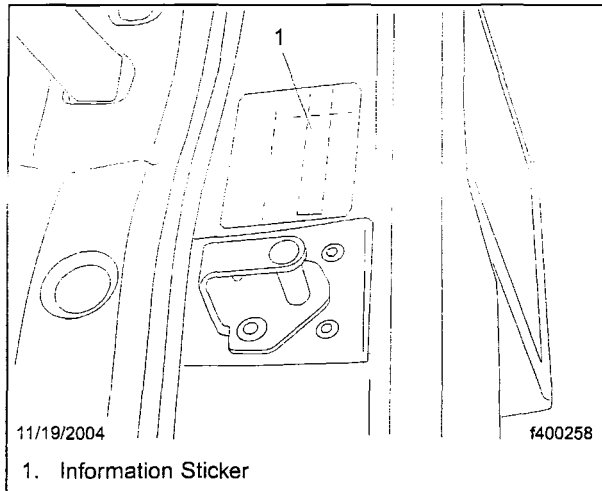
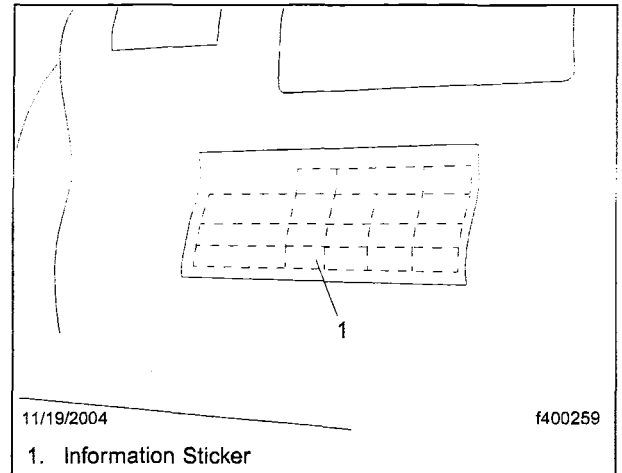
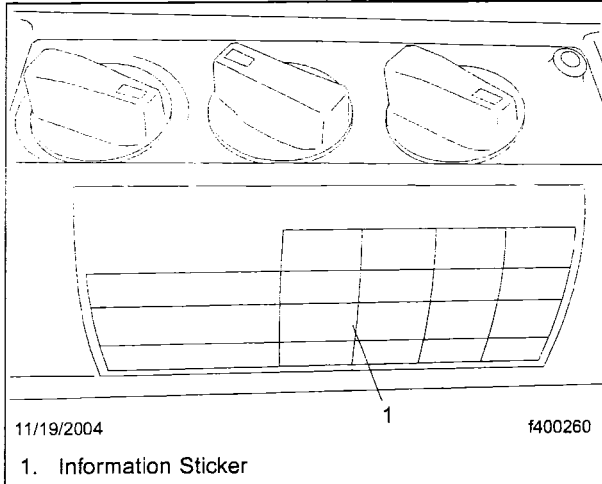

Fig. 1, Left B-Pillar
Fig. 2, Dash Center Panel (CTIS with transferable steering option)
Fig. 3, Dash Center Panel (CTIS without transferable steering option)
2. Locate the old information sticker on the left B-pillar above the door lock, and one on the dash center panel if the vehicle is equipped with CTIS. See **Fig. 1**, **Fig. 2**, and **Fig. 3**. Spray label remover on the old information sticker(s) and leave it on for approximately two minutes. Remove any adhesive residue.